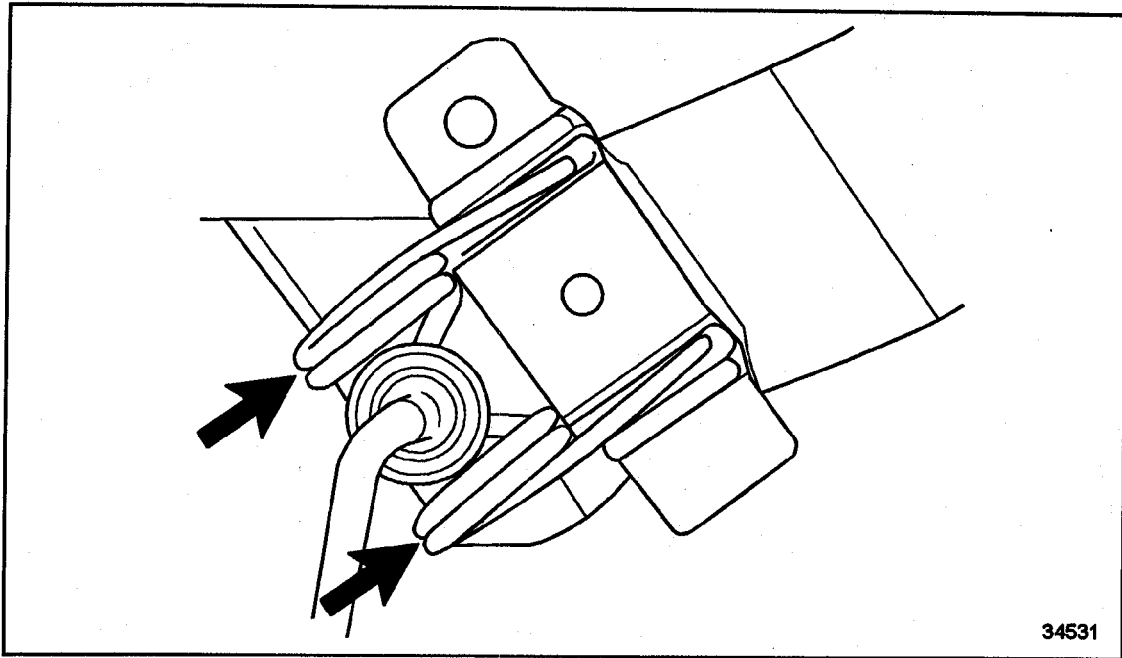

Figure 1-446 Installing the Slave Piston Assembly Torsion Spring
4. Install the slave piston assembly torsion spring with the ends over the bridge. See Figure 1-446.